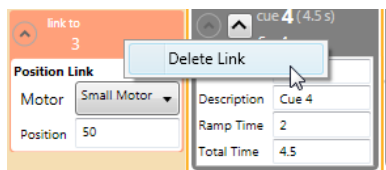

Figure 165
1. Right-click on the **Link** in the **Cue Grid** and select **Delete Link** (Figure 165).